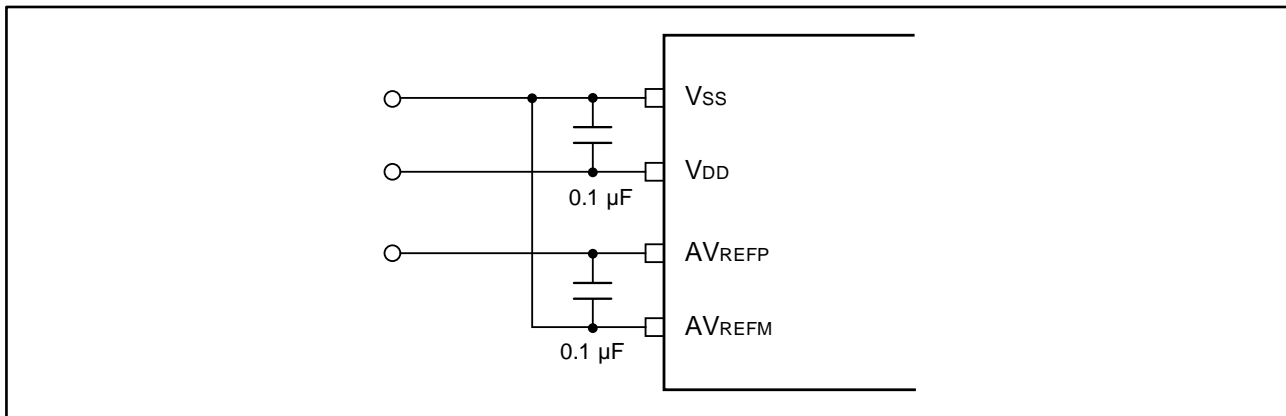

Figure 11: Power Supply Pin Connection Example
- (1) Connect a capacitor with a low equivalent resistance and a good frequency response to the power supply.
- (2) The higher the output impedance of the analog input source, the greater the influence. To reduce the noise, connecting external capacitor as shown in Figure 11 is recommended.
- (3) Do not switch these pins with other pins during conversion.
- (4) The accuracy is improved if the HALT mode is set immediately after the start of conversion.
P.21	Added new description "1.6.2 Notes on Board Design", and Figure 11, "Power Supply Pin Connection Example".